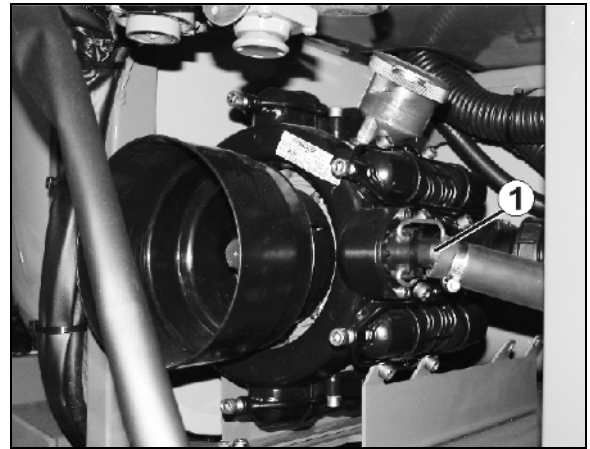

Fig. 142
10. Remove the pressure hose (Fig. 142/1) for the pump so that any remaining water can flow out of the pressure hose and VARIO switch tap on pressure side **B**.